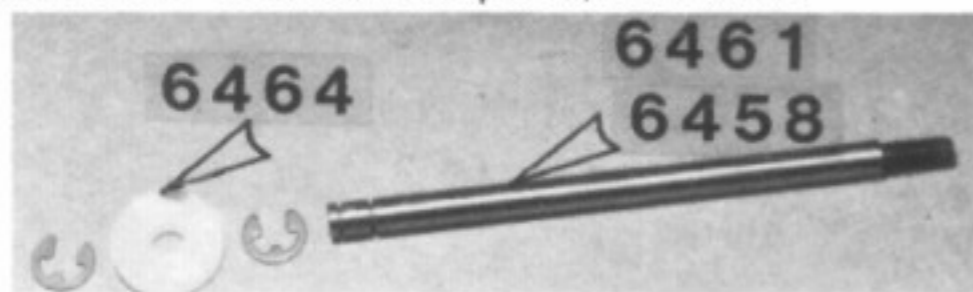

Fig. 117
□ **Fig. 117** Take bag #6-9 and we'll assemble the rear shocks now. Take out the parts, as shown.